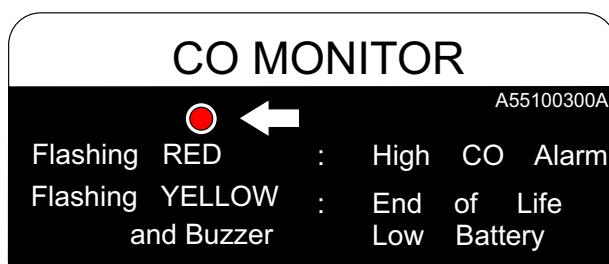

Figure 2. CO Status LED (RED)
- **NEVER** ignore the **RED flashing** status LED (**carbon monoxide sensor**) on the generator (Figure 2). Move to an open area **immediately**. This feature is only available on the GAW180HEANC2 model. Reference the CO Overview section in this manual.